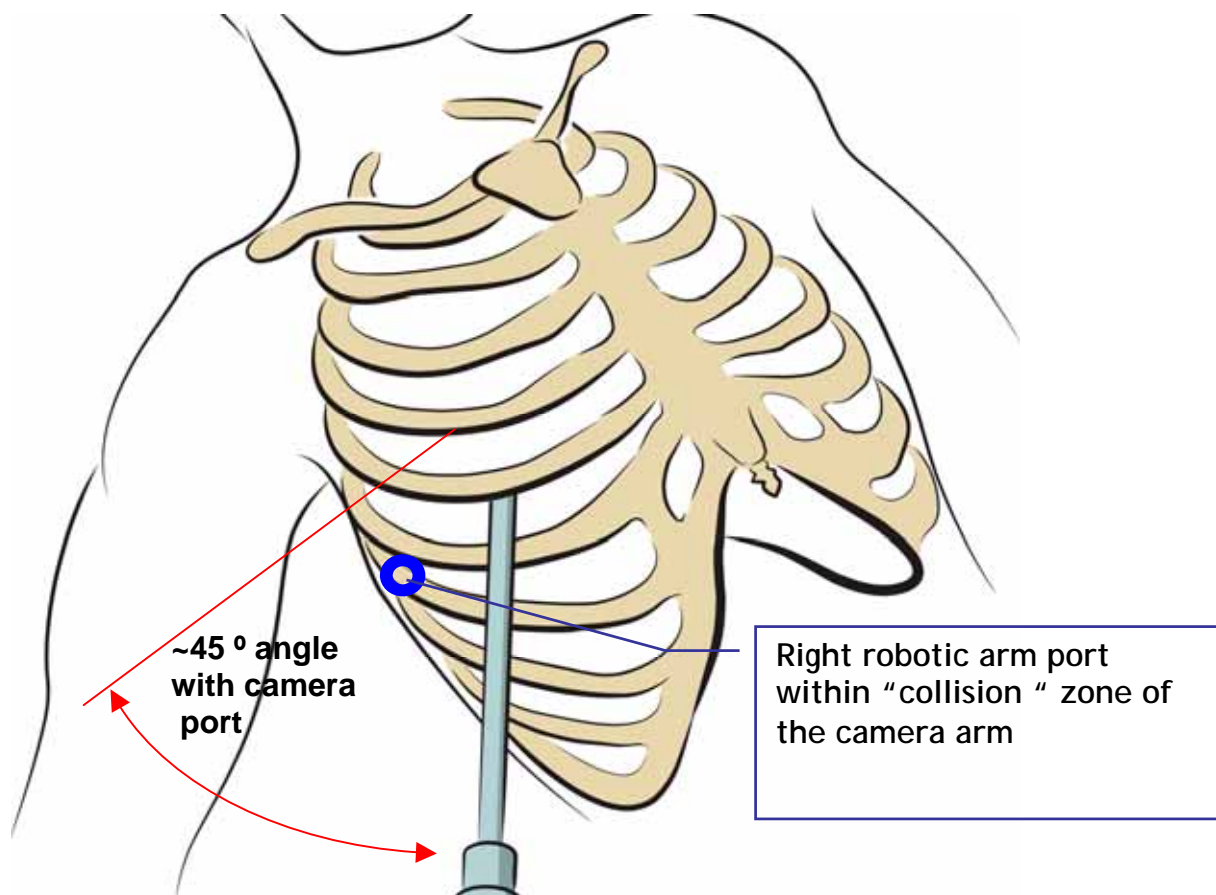

Figure 9: Suboptimal camera angle to view atrial junction may result in collisions with the right robotic arm
- If the camera head has to be tilted more than 45° toward the right costal margin to view the pulmonary veins, it may be necessary to move the endoscope port up an interspace. This is necessary because if the angle is more than 45°, there may be a problem with interference between the endoscopic camera and the right robotic arm later on [Figure 9].